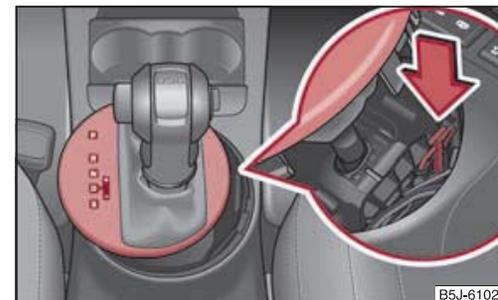

Fig. 104 Selector lever-emergency unlocking
- Use the finger to press the yellow plastic part downwards ⇒ page 99, fig. 104.